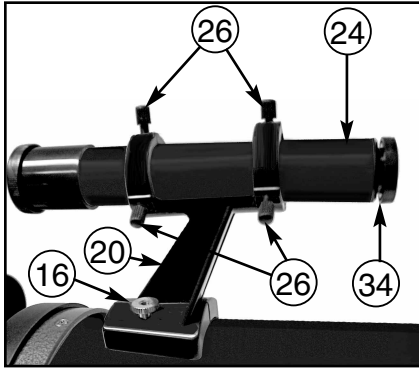

Fig. 1a: Model 114 EQB-1: Viewfinder assembly.
Your Meade 114 EQ-ASB comes to you packaged almost entirely pre-assembled. (References in this section—e.g. (6)—are to **Fig.1a - 1e** unless otherwise specified.)
The wide field of view provided by the 5 x 24mm viewfinder permits easy object sighting prior to observation in the higher-power main telescope. The 5 x 24 Viewfinder (**24, Fig. 1a**) and viewfinder bracket (**20, Fig. 1a**) attaches to the telescope tube assembly as described above (see **Fig. 1a**). In order for the viewfinder to be functional, however, it must be aligned to the main telescope, so that both the viewfinder and main telescope point at the same position in the sky. With this simple alignment performed, finding objects is greatly facilitated, since you will first locate an object in the wide-field viewfinder, then you will look in the eyepiece of the main telescope for a detailed view. To align the viewfinder follow these steps:
- With the front of the viewfinder already centered in the front bracket ring, look through the viewfinder and loosen or tighten, as appropriate, one or more of the rear viewfinder bracket ring thumbscrews (**26, Fig. 1a**) until the viewfinder's crosshairs are likewise centered on the object previously centered in the main telescope.